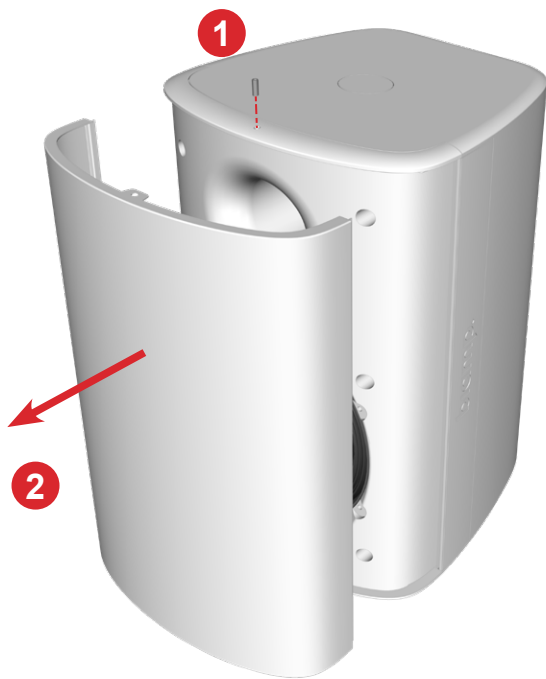

Figure 16. After removing the screws, carefully pry off the grille
1. Carefully remove the screws at the top and bottom of the cabinet. Pull the grille away from the cabinet. Take care not to bend the tabs or the grille (Figure 16).